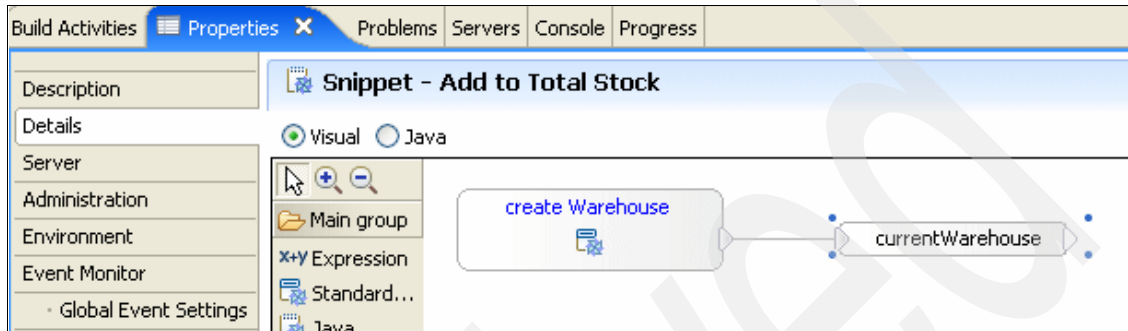

Figure 3-196 The create Warehouse temporary variable of type Warehouse
- b. Link create Warehouse to the currentWarehouse variable. This link sets the currentVariable's type to Warehouse. See Figure 3-196.